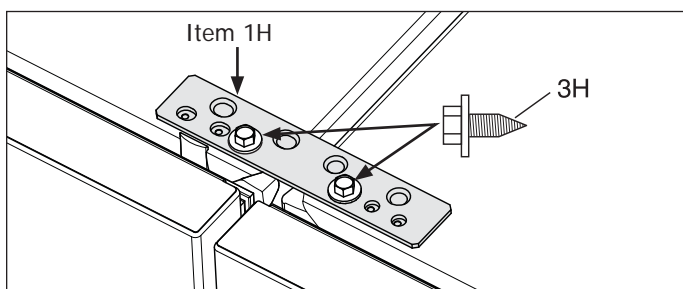

Figure 2-18.
- c. Tie units together with the common mounting bracket at the front top with two screws in the inner two screw holes by using a 3/8" socket. (See Figure 2-18)